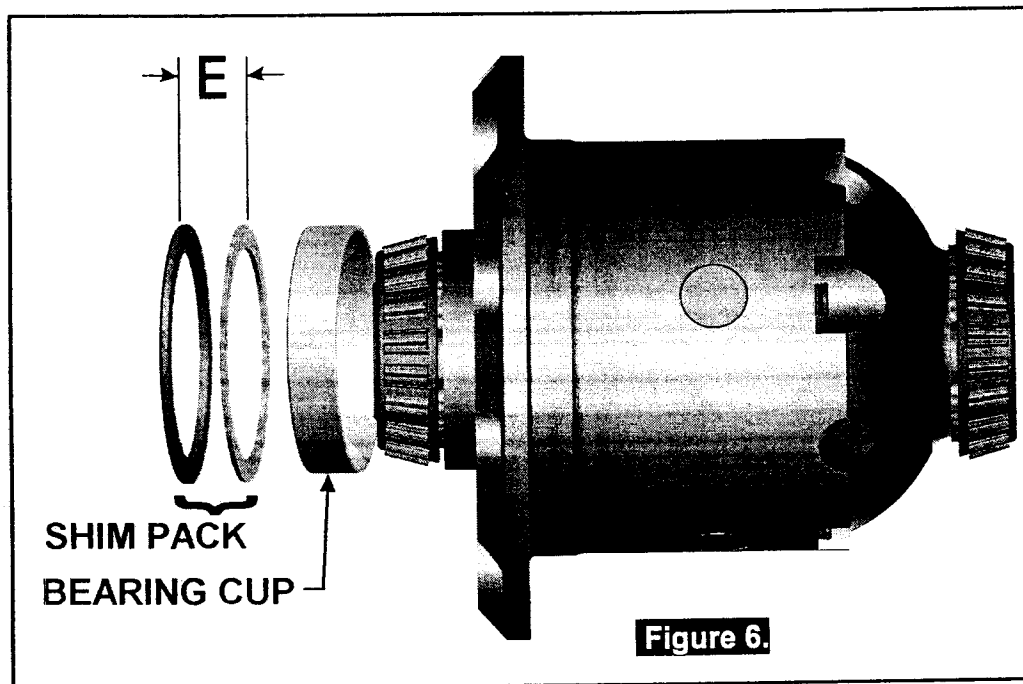

Figure 6.
In order to preload the tapered roller bearings in your *Air Locker*, measurements need to be taken so that a value can be calculated for the total shim thickness 'E' in Figure 6.
- Add the specified preload amount to the end float measurement determined with the feeler gauge to determine a shim amount for 'E' (Refer to Figure 6.).
- To decrease the amount of backlash, reduce the shim thickness 'D' (Fig.4.) and increase the shim thickness 'E' (Fig.6.) by the same amount. Reverse this step to increase the backlash.